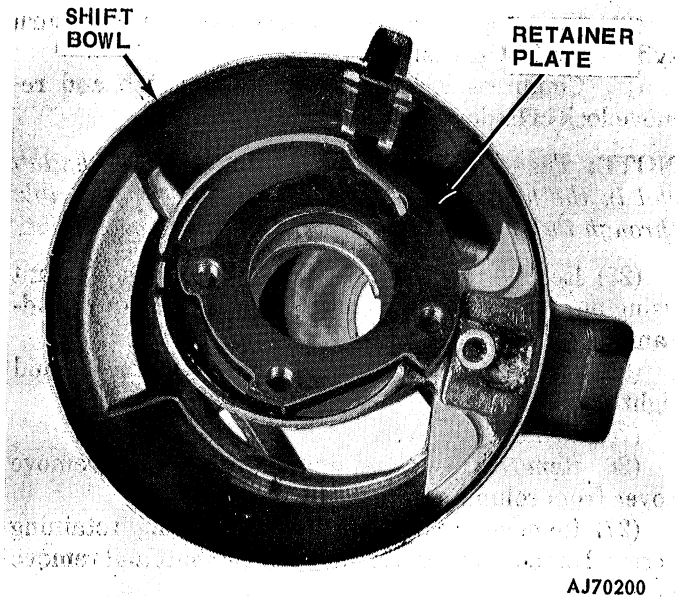

Fig. 2J-41 Retainer Plate Removal
- (48) Remove wave washer and shift tube spring.
- (49) Remove shift bowl from column jacket.
- (50) Remove lower bearing retainer spring clip (fig. 2J-42).
- (51) Remove lower bearing retainer and remove lower bearing, and bearing adaptor assembly.